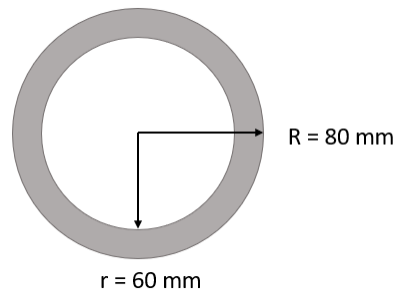
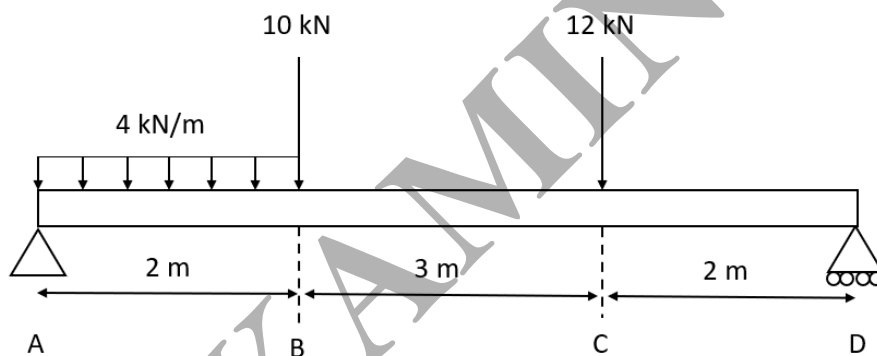

Figure 1a- Cross section of beam
Figure 1b- Beam loading
- Q1. Figure 1a shows the symmetrical cross section of a hollow cylindrical beam. Figure 1b shows the loading conditions for the simply supported beam. The beam is made from steel with a modulus of elasticity, $E = 210 \text{ GPa}$.